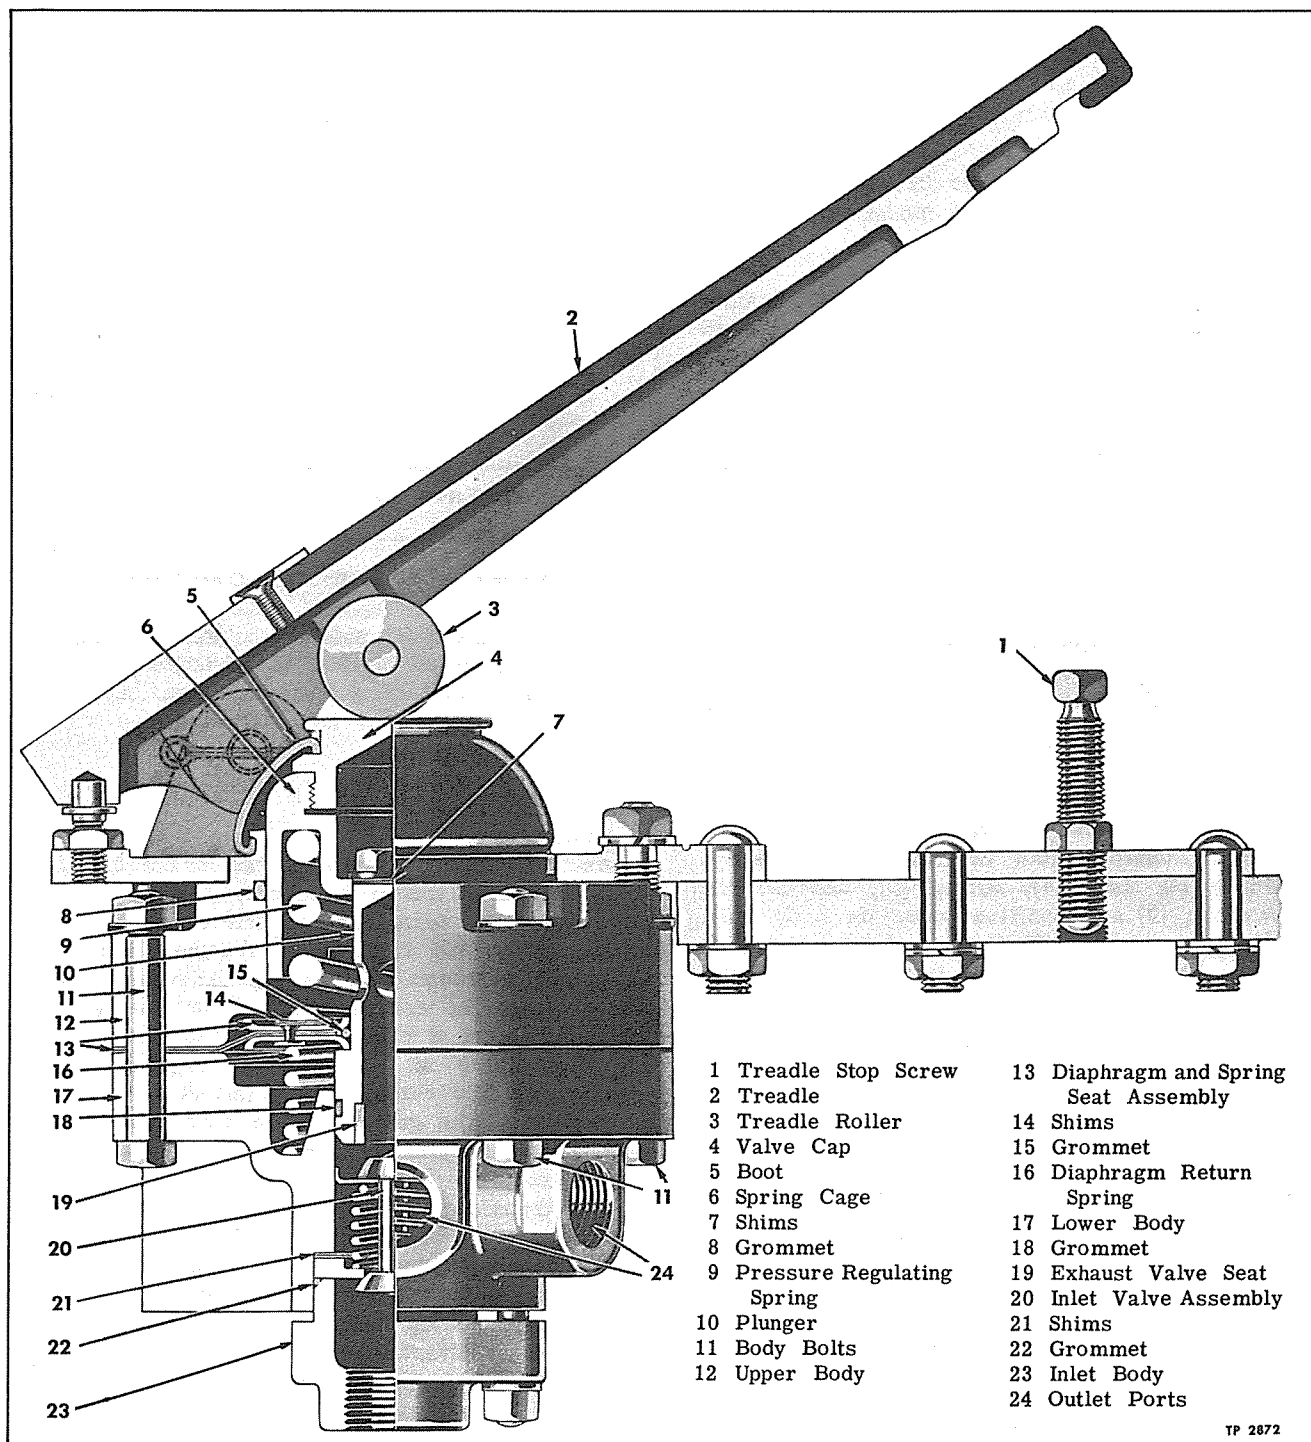

Figure 7—Brake Application Valve
Brake application valve (fig. 7) is a preloaded treadle type D-1 brake valve mounted underneath
OPERATION (Fig. 7)
a. Check the delivery pressure of the valve, using an accurate test gauge. The gauge should be connected to test fitting (fig. 1) located in tool compartment in left front corner of vehicle. With the treadle fully depressed against the treadle stop on the toeboard, test gauge should show 65 pounds pressure. Stop screw (fig. 7) should be adjusted to stop treadle at point at which this pressure is obtained.
APPLICATION VALVE DISASSEMBLY (Fig. 7)
APPLICATION VALVE ASSEMBLY (Fig. 7)